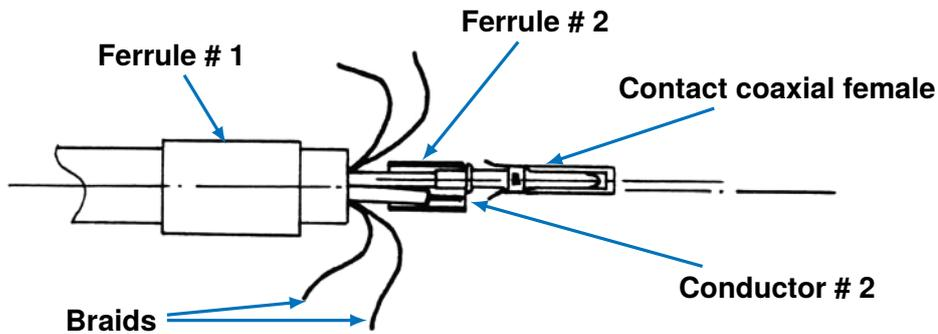

Figure 9: Ferrule # 2 translated into final position
- Remove the female coaxial contact, slide the ferrule # 2 on the two conductors, insert again the male contact in the body of the female coaxial contact. Translate the central contact to the point where it stops against the dielectric of the miniature female coaxial contact, and maintain it carefully in position.(Figure 9)